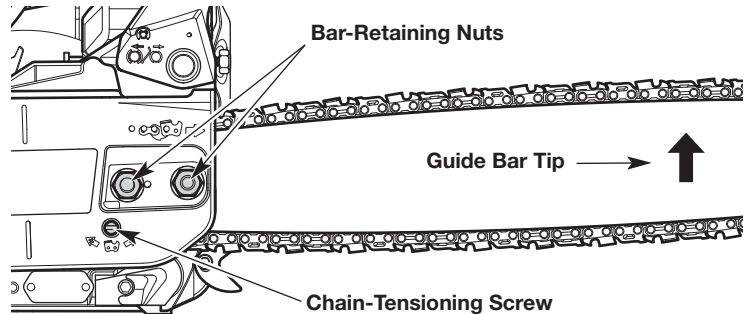

Fig. 26
**NOTE:** A new saw chain tends to stretch and will need readjustment after as few as five (5) cuts. This is normal during the break-in period. The interval between future adjustments will lengthen quickly.
2. Use the multi-purpose tool or a 1/2 inch (13 mm) wrench to slightly loosen the bar-retaining nuts (Fig. 26).
3. Hold the guide bar tip up and use a flat-head screwdriver to turn the chain-tensioning screw (Fig. 26).